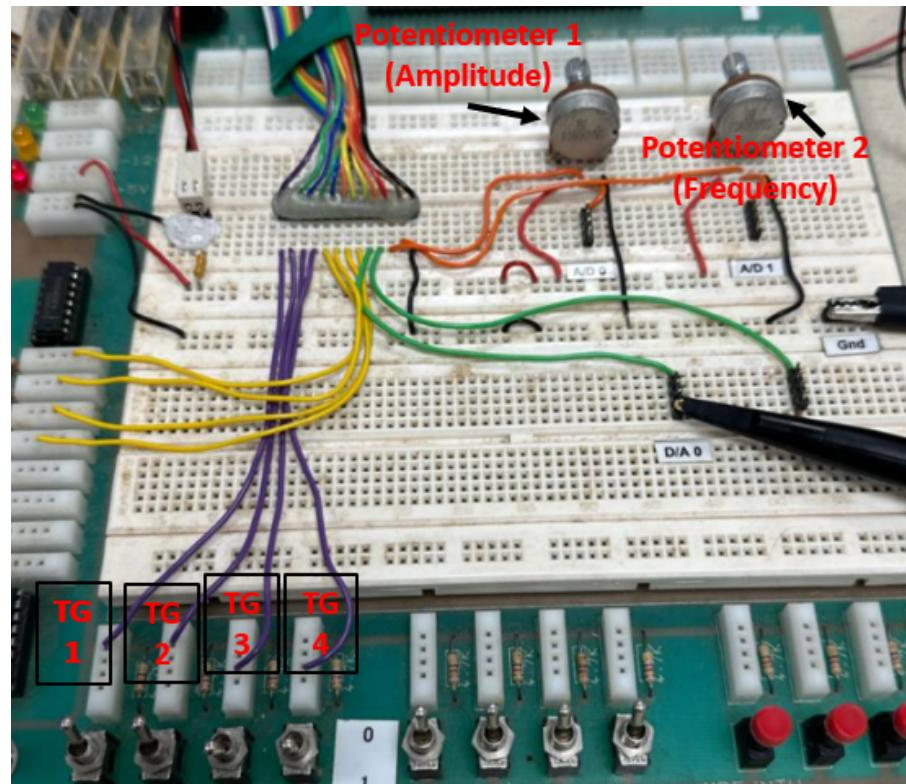
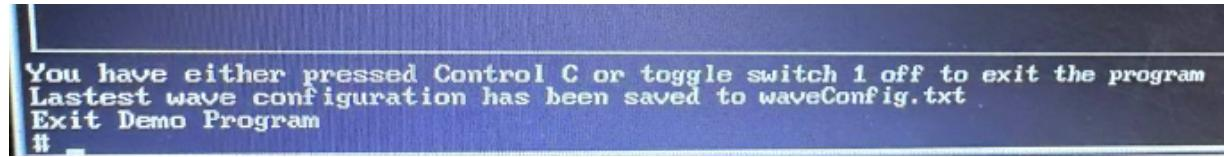
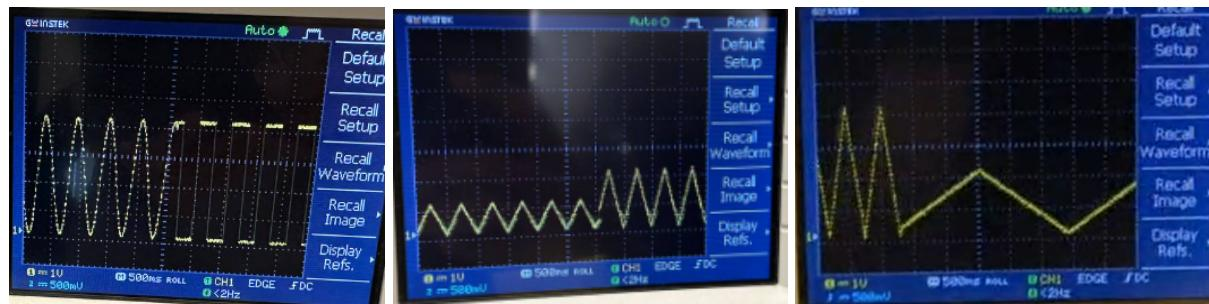

Figure 5: Toggle switches in terminate program configuration
Figure 6: Display for exit program and wave configuration saved
Figure 7, 8 and 9: Waveform generated from different parameters (change in waveform, change in amplitude and change in frequency)
- Toggle switch 1 (TG1) - acts as an exit button for the program. Set TG1 in UP(0) state to exit program, as shown in Figure 5. The program will then show a message to indicate that the user has exited the program successfully, and that the latest wave configuration has been saved in a text file, as shown in Figure 6.
- Toggle switch 2 (TG2) - acts as a control mode toggle. Set TG2 UP(0) or DOWN(1) to toggle between DAQ or keyboard mode.
- Toggle switch 3 & 4 (TG3 & TG4) - changes the waveform type. Set TG3 and TG4 to 00 for Sine waveform, 01 for Square waveform, 10 for Sawtooth waveform, and 11 for Triangular waveform respectively. An example of waveform type change is shown in Figure 7.
- Potentiometer 1 & 2 (labeled in Figure 5) - changes the amplitude and frequency of the waveforms respectively. Turn the knobs clockwise/anti-clockwise to adjust the amplitude and frequency. Examples of amplitude change and frequency change of the waveform are shown in Figures 8 and 9 respectively.